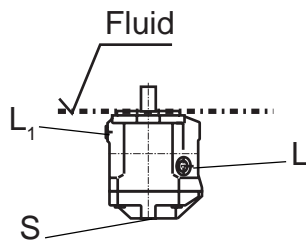

Fig. 1
a) If the minimum fluid level is equal to or above the pump mounting surface leave ports "L", "L₁" and "S" open (see Fig.1).